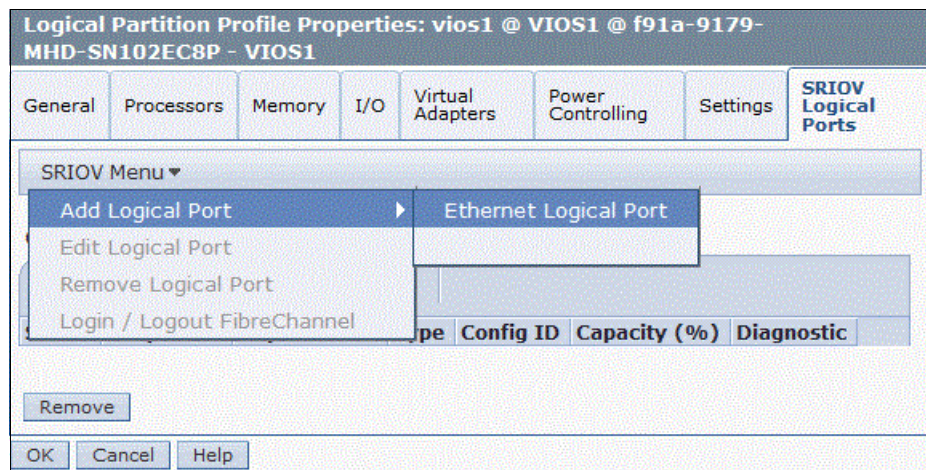

Figure 4-24 Add logical port
2. Click the **SR-IOV menu** and select **Add Logical Port** (Figure 4-24).